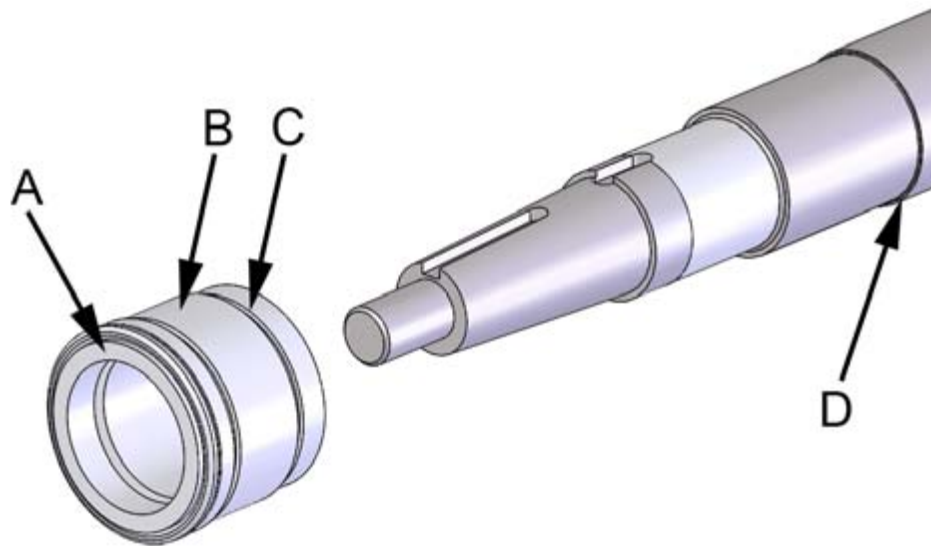

Figure 14. Installing the mechanical seal
1. Place the frame of the mechanical seal (figure 14, point B) against the shoulder of the shaft (figure 14, point D) and tighten the set screws (3 pcs, figure 14, point C).
Be careful not to damage the slip-ring (figure 14, point A) during installation. If the frame of the mechanical seal is pressed into its place in a slanted position, and the slip-ring can scratch the surface of the shaft, the slip-ring may be damaged.